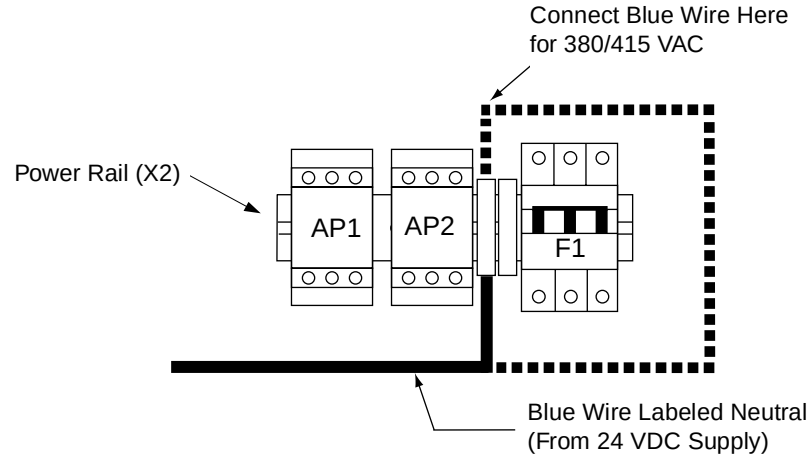

**Figure 5-8. Moving Blue Wire From AP1.L2 to Neutral (380-415 VAC)**
2. Remove that wire from the L2 position on contactor AP1 (X2:AP1.L2) and install it in the neutral terminal on the Power Rail (X2:N). See Figure 5-8 on page 103.